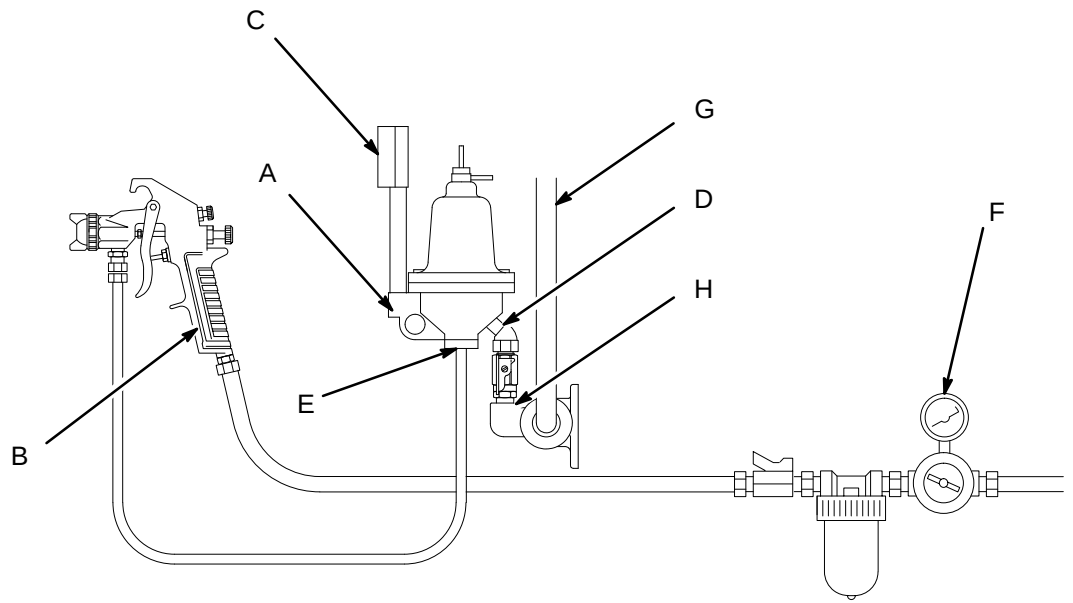

Fig. 1
- Install regulator (A) in fluid supply line as close as possible to spray gun or dispensing valve (B) for easy operator control.
- Mount the regulator in an upright position so that the gauge (C) can be easily read.
- If turning the gauge, reapply sealer to the threads, and use a wrench on the inlet stud to turn gauge. Regulator inlet (D) is 3/8 npt (f) swivel and outlet (E) is 3/8 npsm (m) rigid.
- Connect a fluid hose to regulator outlet (E) and spray gun. Connect an air atomizing hose to the spray gun and air regulator (F) See Fig. 1.
- To mount the regulator in a circulating system supply line (G), install an accessory outlet (H). One outlet (H) and air regulator (F) are required for each spray gun. The accessory outlet (Part No. 204-819) may be ordered separately.